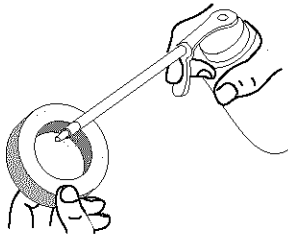

Fig. 39
- Apply enough clean SAE 30 oil to lightly coat the filter (Fig. 39).